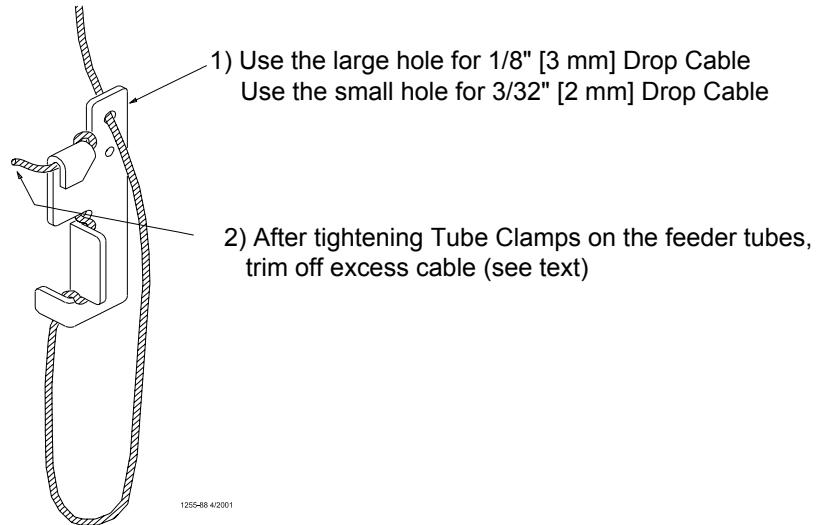

Figure 27. Cable Lock Threading
6. Install Adjustment Leveler within 6" [152 mm] of feeder line. **Figure 27** shows the proper cable routing around the Adjustment Leveler.
Finally, tighten the Tube Clamps on the feeder tubes. Clamp the joints securely, but do not crush the tubes. Re-adjust all Adjustment Levelers as needed and trim off excess cable as shown in **Figure 27**.